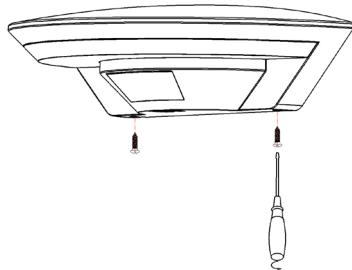

Figure 1
- Screw off the nail on the bottom of sensor lamp and unload the back cover. (refer to figure1)